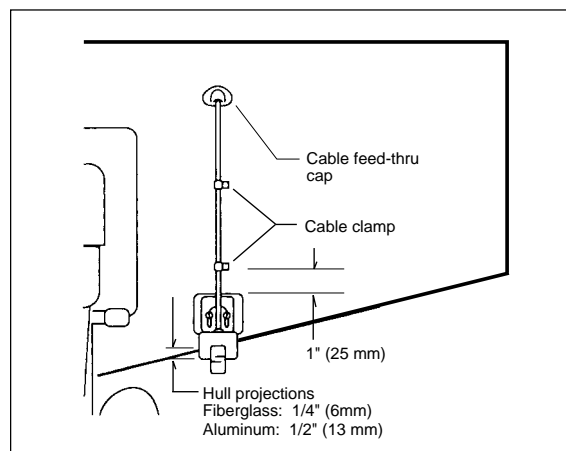

Fig. 2-13
1. Route the cable up and over the top edge of the transom. See Fig. 2-13. Secure the cable using cable clamps. (These clamps are available from your local marine equipment supplier.) If you do not want to expose the cable on the deck, you may drill a new hole (3/4" or 19 mm) through the transom for the cable. (Remember – this hole must be large enough to accept the cable with the connector attached. Do not cut the cable!) To seal the opening, use a feed-thru cap where the cable passes through the transom.